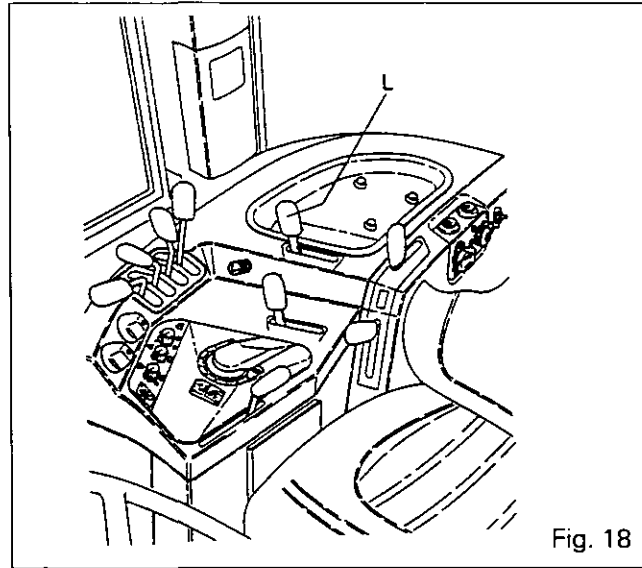
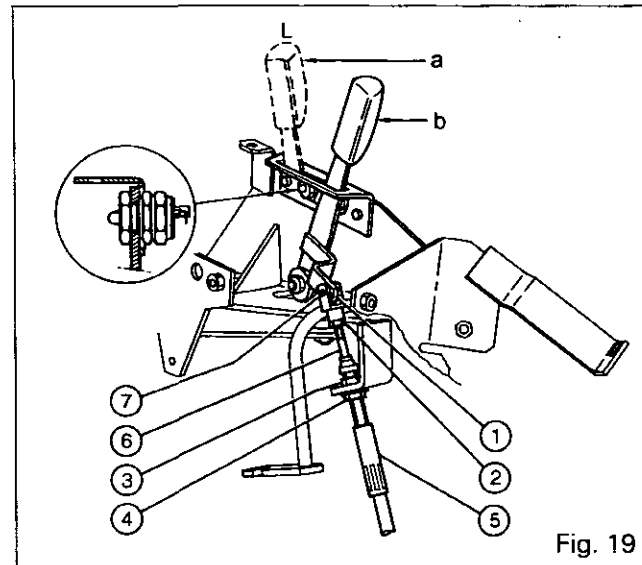

Fig. 18
Fig. 19
- 123. Put the control lever **L** (Fig. 18) into the «Economic - 1550 r.p.m.» position (Fig. 19).